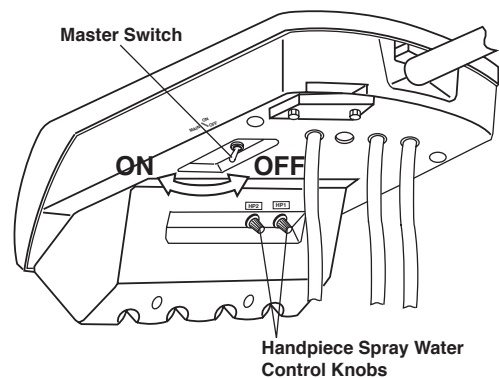
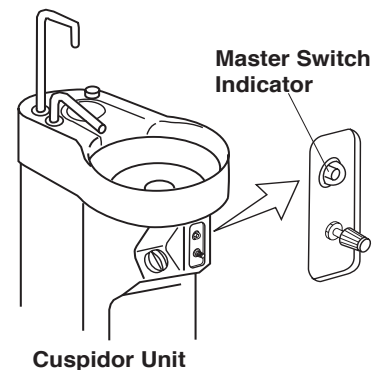
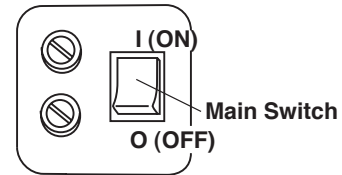

Fig. 3-1 Master Switch and Handpiece Spray Water Control Knobs
Fig. 3-2 Master Switch Indicator
Fig.4-1 Main Switch
3-1. MASTER SWITCH (Fig.3-1 and Fig.3-2)
(1) Handpiece Spray Water Flow Control Knobs (Fig.3-1)
4-1. MAIN SWITCH (Fig.3-1 & Fig.4-1)